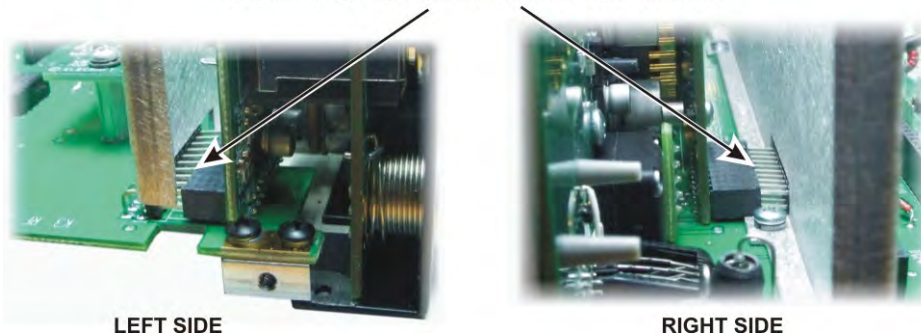

Figure 62. Mounting Front Panel Assembly - Connectors P50 and P51.
- Look at the two multi-pin connectors on the top of the RF board to see if they are engaging the corresponding connectors on the front panel assembly (see Figure 62). Adjust the position of the RF board or the front panel assembly to ensure they are mating properly.
**⚠ REMOVING THE FRONT PANEL:** If you need to remove the front panel assembly, remove the five screws holding it to the chassis (three on the top lip and two on the bottom), turn the unit upside down and use a screwdriver in the two pry slots provided as shown in Figure 63. Do not insert the screwdriver deep enough to strike components on the boards! Pry each end in short increments until the connectors separate. Either a blade (as shown) or Phillips screwdriver may be used. Note that you may need to remove the left side panel and the 2D mounting screw shown in Figure 62.